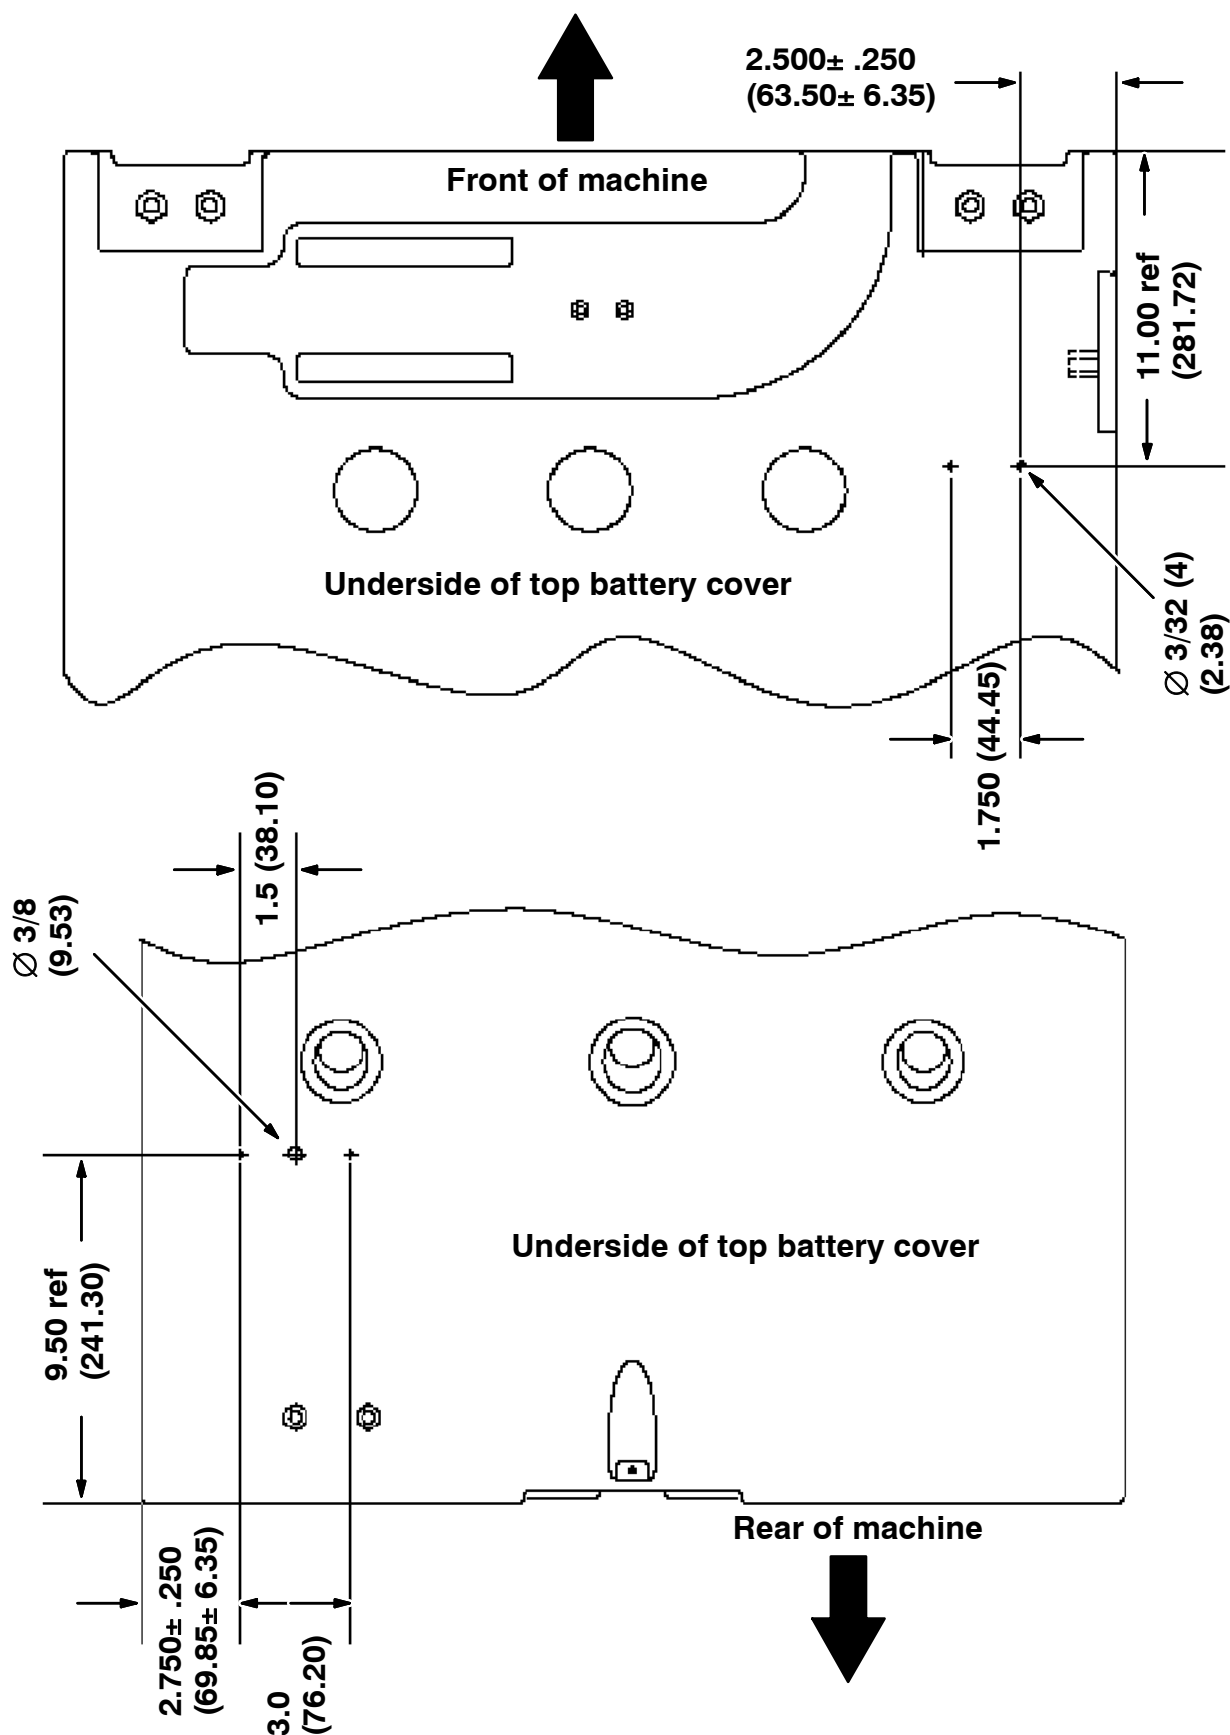

FIG. 15-CLEAN-OUT WAND MOUNTING CLIP MOUNTING LOCATIONS
19. Mount the clean-out wand mounting clamps to the underside of the rear battery cover. Refer to the rework diagram in Fig. 15.